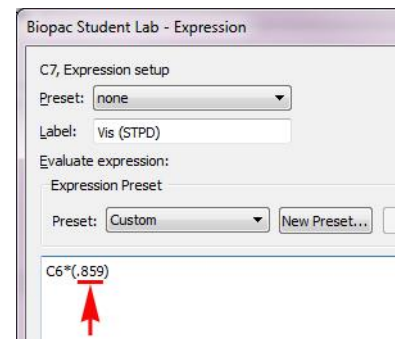

Figure 8
13. Replace the scaling factor in the expression dialog with the normalization factor found in the table. In the Figure 8 example, for a lab OBR of 728 mmHg and a temperature of 72° F, the normalization factor from the table is .4859.+